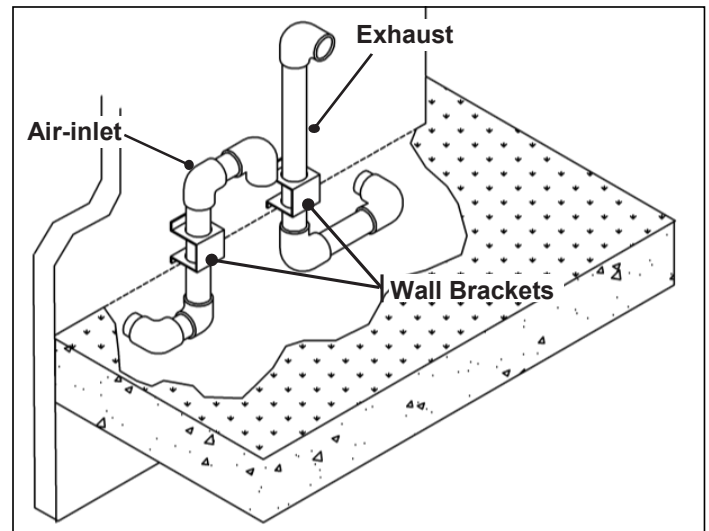

Figure 33 - Venting Below Grade
- Excavate the site to a point where the pipes are to exit as shown in Figure 33.